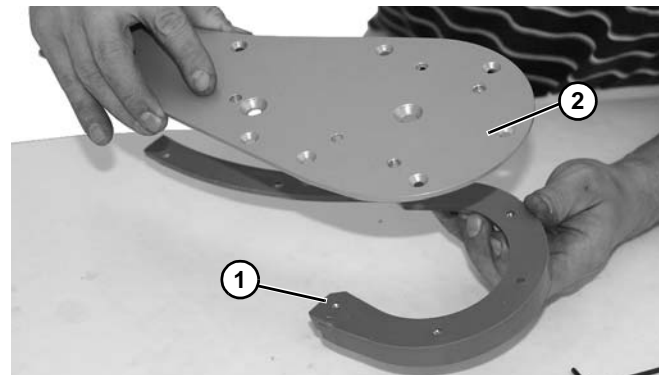

Figure 137
2. Remove retaining guide (**Figure 137, item 1**) from idler head plate assembly (**Figure 137, item 2**). Replace components, as needed.